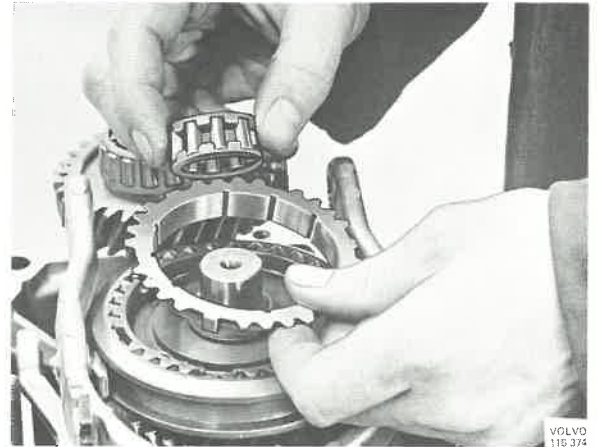

Fig. 43-113. Fitting roller bearing and cone
13. Place the roller bearing and synchronizing on the output shaft, Fig. 43-113. Fit the input shaft in position.